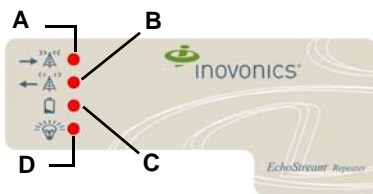

Figure 2 High power repeater front panel
2. Place a selection jumper on the frequency band selection pins appropriate to your geographic area (Figure 2).
6. Plug the connector cable from the backup battery into the battery connector (Figure 2).
- Attach one of the mounting screws to the wall through the tamper mounting hole (Figure 2).